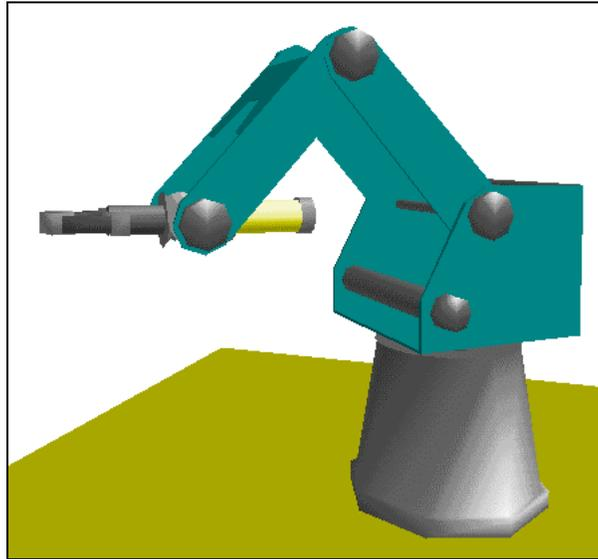

Figure 3-5: Position #4
- 8 Moving only the elbow axis, bring the robot arm to the position shown in Figure 3-5, and record this as position #4.